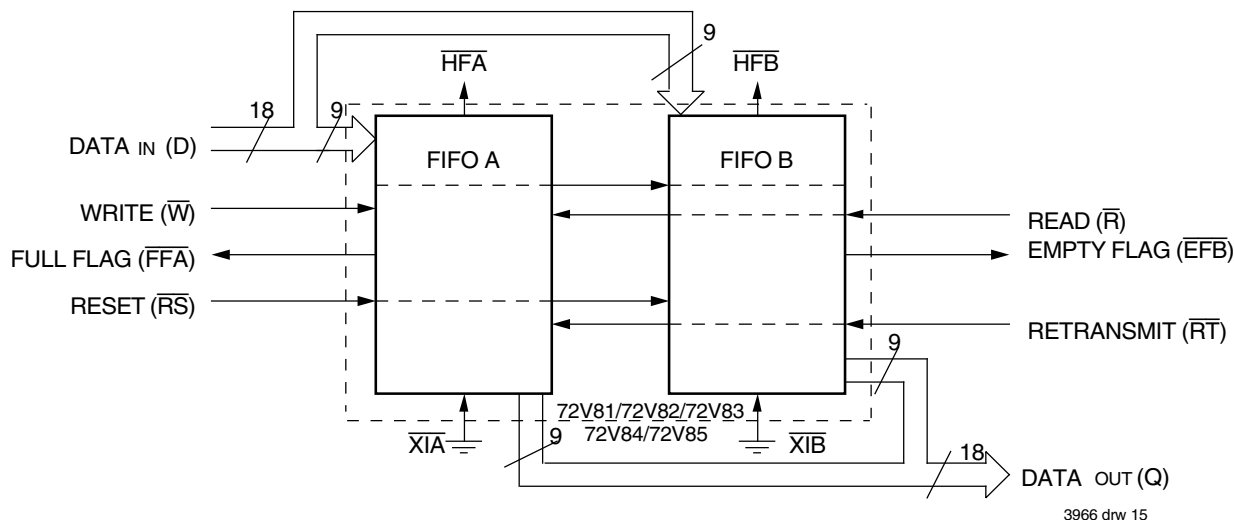

Figure 13. Block Diagram of One 512 x 18, 1,024 x 18, 2,048 x 18, 4,096 x 18 and 8,192 x 18 FIFO Memory Used in Width Expansion Mode
Word width may be increased simply by connecting the corresponding input control signals of multiple FIFOs. Status flags ($\overline{EF}$, $\overline{FF}$ and $\overline{HF}$) can be detected from any one FIFO. Figure 13 demonstrates an 18-bit word width by using the two FIFOs contained in the IDT72V81/72V82/72V83/72V84/72V85s. Any word width can be attained by adding FIFOs (Figure 13).
2. For Flag detection see section on Width Expansion and Figure 13.